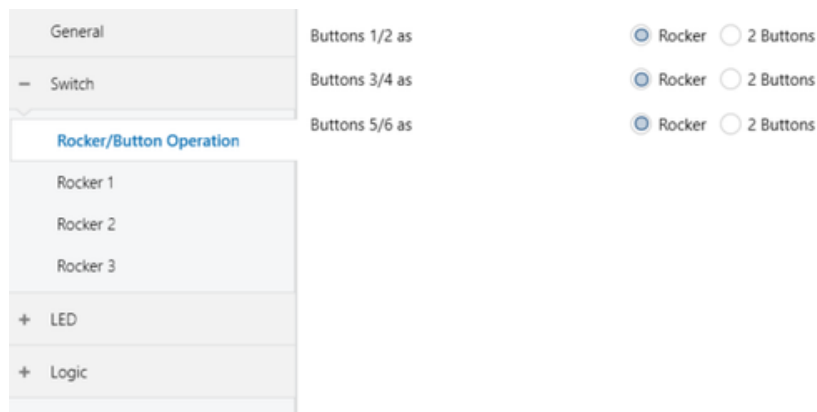

Figure 1
- Rocker: The pair appears as a single Rocker page, as shown in Figure 1.